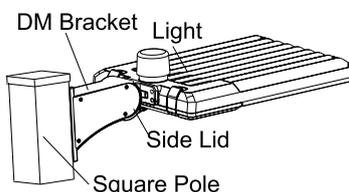

Figure 14
Step 2: Put the connected wire into the junction box, then cover the junction box.(Figure 14)